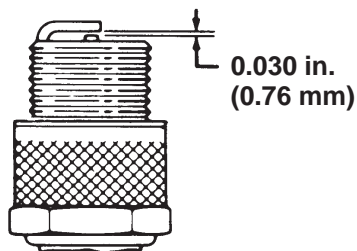

Figure 48
4. Set the air gap between the center and side of the electrodes at 0.030 in. (0.76 mm) (Fig. 48) Install the correctly gapped spark plug w/gasket seal, and tighten the plug to 200 in.-lb. (23 N·m). If a torque wrench is not used, tighten the plug firmly.